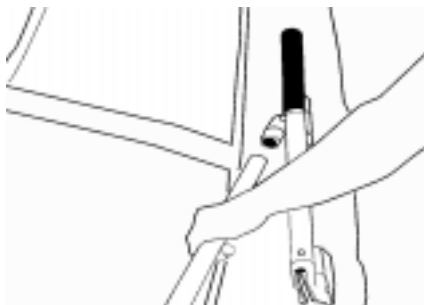

Figure 6. *Attach the cross tube into the cross tube joints.*
7. Take the cross tube (Part b4). Attach the cross tube into the cross tube joints (Part b7) that are situated on the front tubes (Part b1) and can be seen from the cross tube holes (Part a3). (See figure 6.)